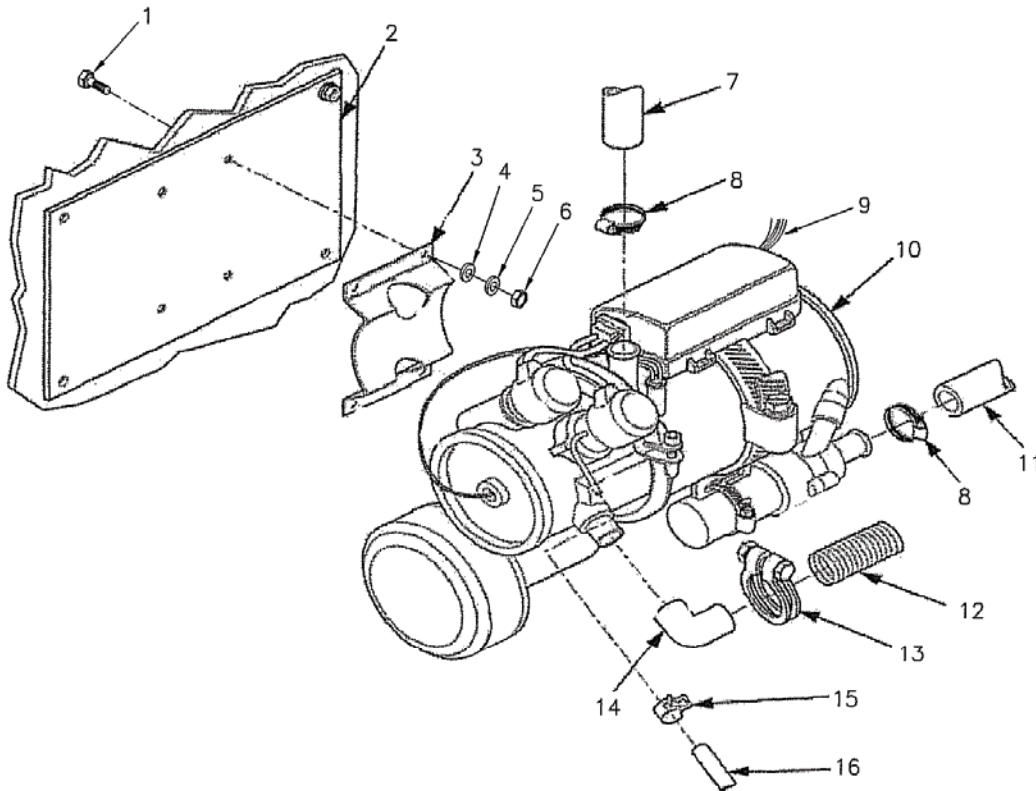

Figure 6-14. Heater Assembly Maintenance.
- c. Disconnect fuel clamp (15, Figure 6-14) and fuel line (16) from heater and drain any fuel from hose into a suitable container.
- d. Disconnect wiring harness connector (9) from heater.
- e. Remove screw clamp (13), elbow (14), and exhaust hose (12) from heater (10).
- f. Position a suitable container under heater to catch coolant from hoses, and loosen screw clamps (8) to disconnect coolant inlet hose (11) and outlet hose(7) from heater (10).
- g. Remove four screws (1), flat washers (4), lock washers (5), nuts (6), and heater (10) with mounting plate (3) from bulkhead housing (2). Discard lock washers (5).